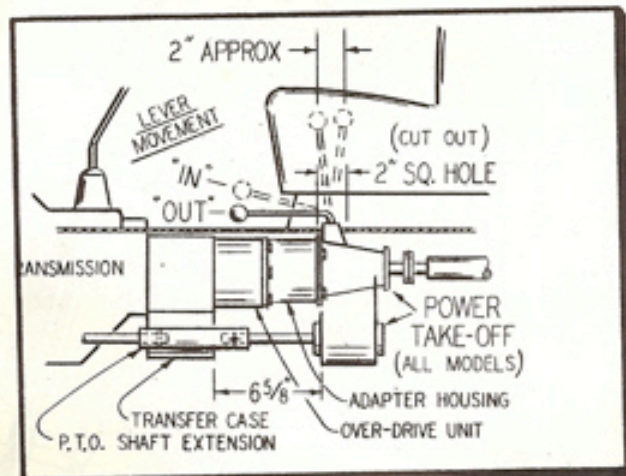

Fig. 11 — POWER TAKE-OFF INSTALLATION DIAGRAMS
1. Locate and mark a (2" square) opening in the floor board. In vehicles with a single "long" seat, the opening will be under the seat as shown in Fig. 11. Drill a small hole in each corner of the (2" square) opening. The locating, marking and drilling is done from underneath the vehicle, and also, before the power take-off is installed, so the desired working room is available. The actual cutting or "chiseling" out the opening can be done from up above.
lever. In vehicles with bucket seats, the lever will stick up between them and will offer no problem in operation. "Pull back" to engage, "push forward" to disengage. In vehicles with one "long" seat, the lever would normally stick up and interfere with the seat cushion, so therefore, the lever should be bent forward to clear the seat, as shown in Fig. 11, so that proper operation can be maintained "pull up" to engage, "push down" to disengage.